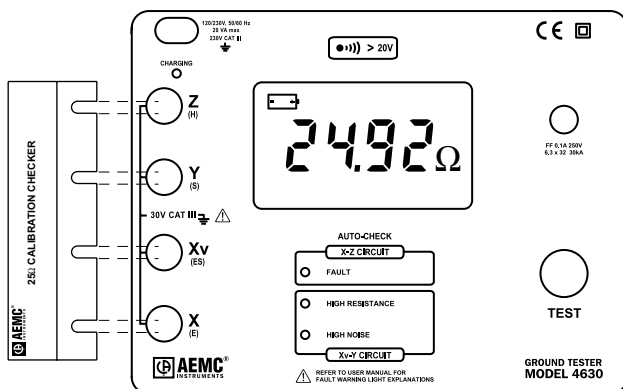

Figure 21
- Insert the calibration checker as shown in Figure 21.
If a check performed on the Model 4630 or 4620 displays a reading between 24.1 Ω and 25.9 Ω (as in Figure 21), the instrument is in good working condition. The readings are for an ambient temperature between 68° and 79°F (25°C ±3°C).